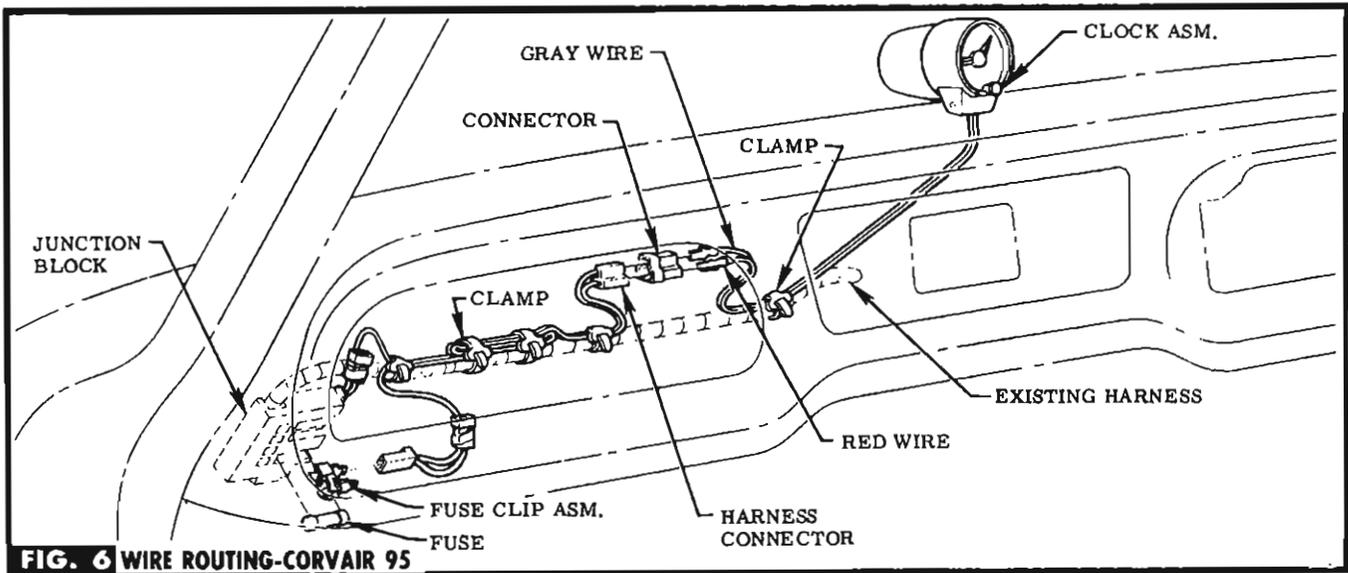

FIG. 6 WIRE ROUTING-CORVAIR 95
- FIG. 6 - SUBURBAN TRUCKS
STEP 13 LOCATE BRACKET ON INSTRUMENT PANEL & TIGHTEN ATTACHING SCREWS. KEEP SCREWS CLOSE AS POSSIBLE TO ROLLED FLANGE. SEE FIG. 6.